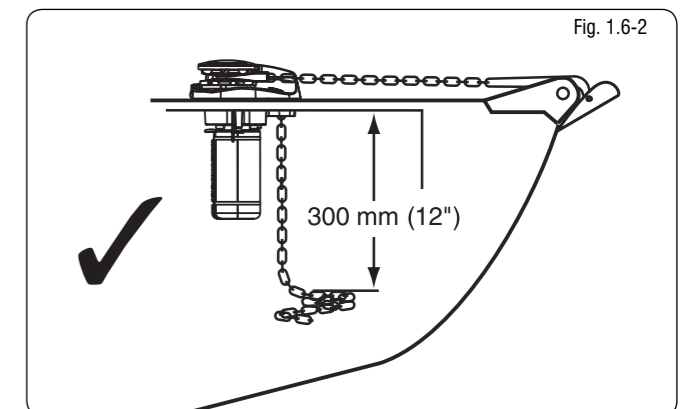
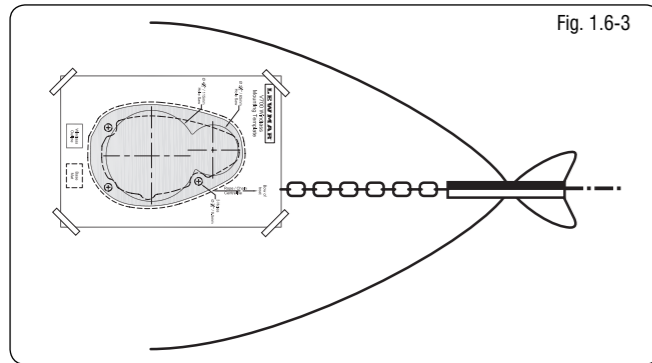

Fig. 1.6-2
Fig. 1.6-3
- Place the windlass on the deck and decide upon a position for it with reference to the vessel's bow roller (Fig. 1.6-2) and the chain locker below. Rode lead from the roller should ideally be fed horizontally back to the top of the gypsy and along its centerline (Fig. 1.6-3).